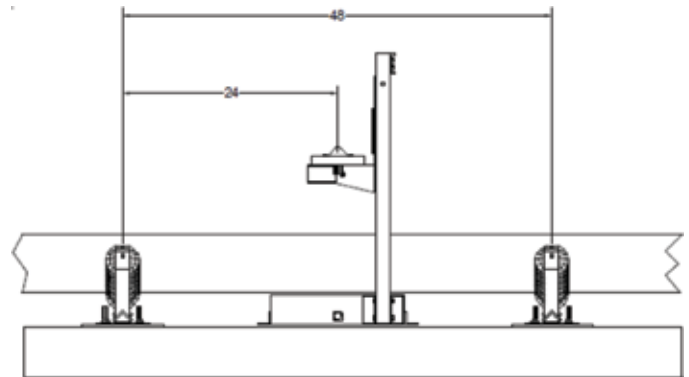

FIGURE 1
1. Place the receiver antenna into position on the belt ensuring it is properly centered in the metal free zone. (see Figure 1).